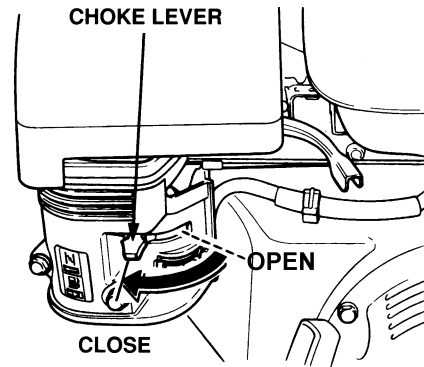

Figure 10. Engine Choke Lever
3. Place the ***choke lever*** (Figure 10) in the "CLOSED" position if starting a ***cold engine***.